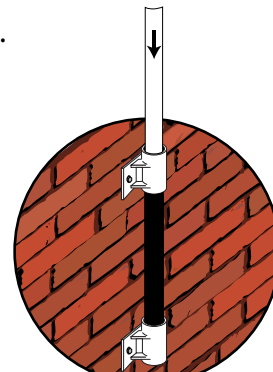

Fig 7.
7. Mount the pole into the ground socket (see Fig 7).